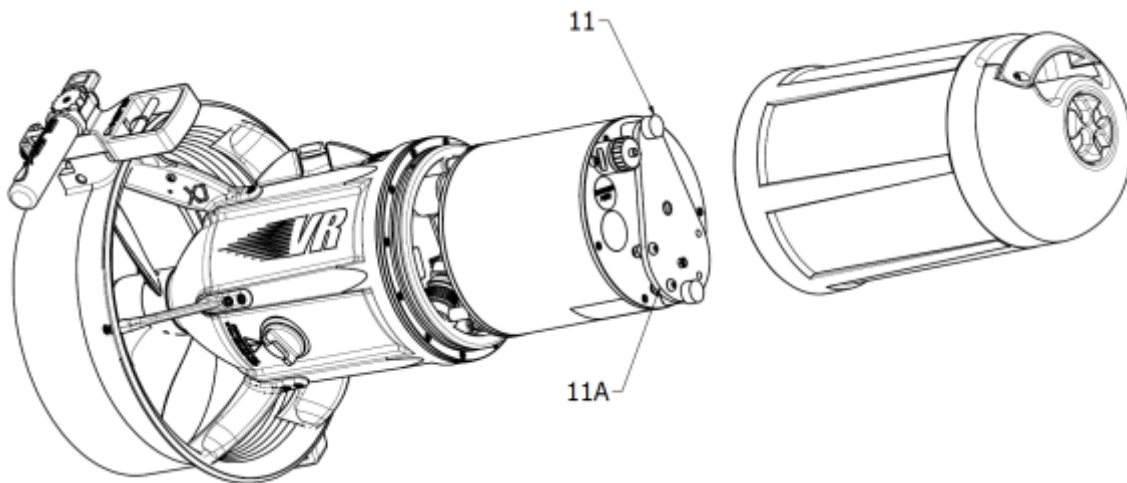

Fig.2 - Opening the battery compartment
Once the nosecone has been removed, unscrew the knobs (11 - Fig.2 - 3), disconnect the connector (15) and remove the battery (14) by pulling it upwards.